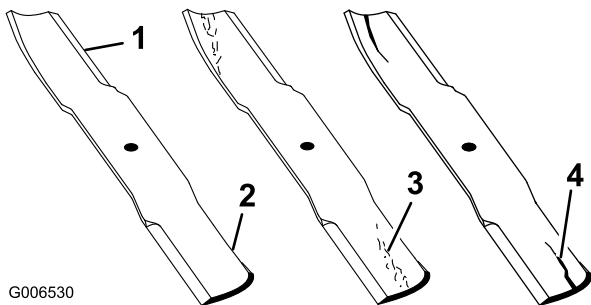

Figure 49
1. Inspect the cutting edges (Figure 49).
2. Inspect the blades, especially the curved area (Figure 49). If you notice any cracks, wear, or a slot forming in this area (item 3. in Figure 49), immediately install a new blade.